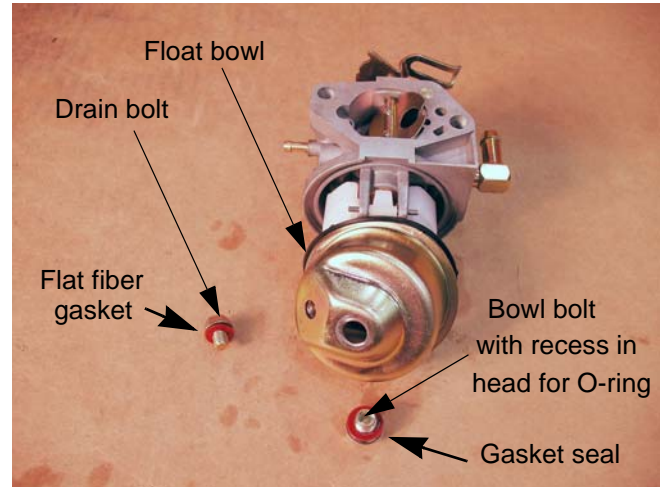

Figure 4.12
6. Remove the bowl bolt using a 10mm wrench. See Figure 4.12.